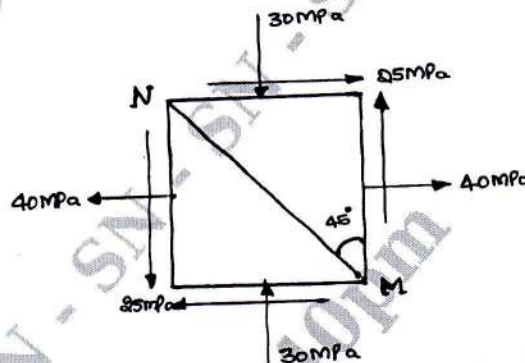

Fig Q1(a)
- 1 a. A point in a structural member subject to plane stress shown in Fig Q1(a). determine following : i) Normal and Tangential stress on plane MN inclined at an angle of 45 Degree